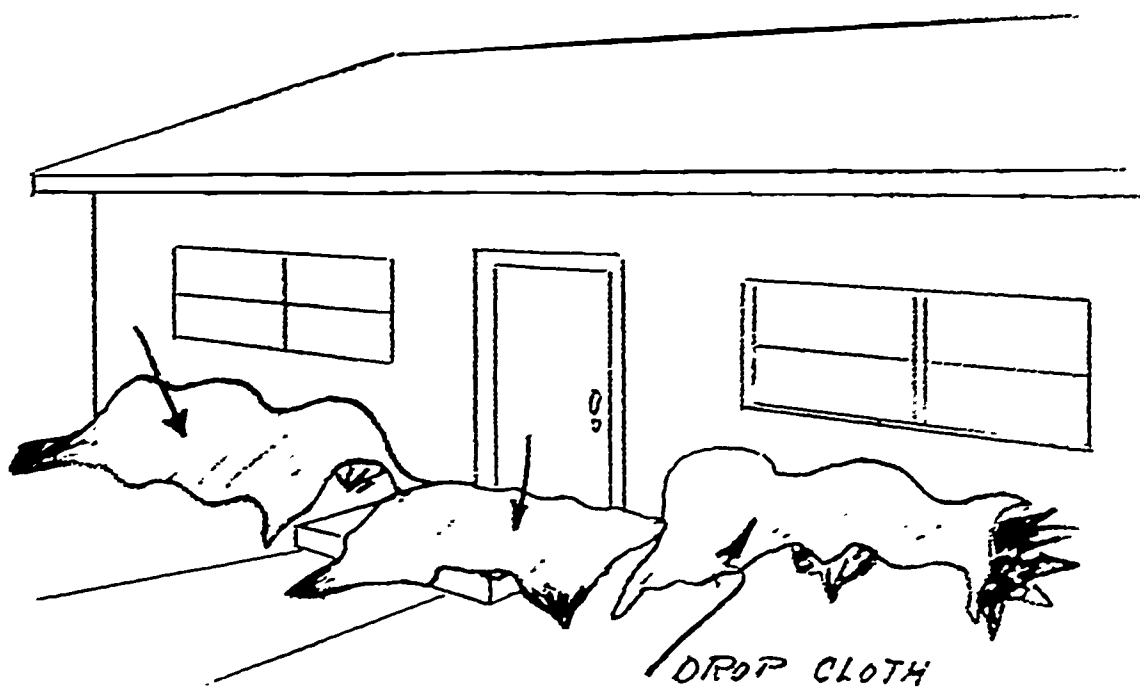

FIG. 412
9. Use drop cloths to cover shrubs and walkways. See figure 412.